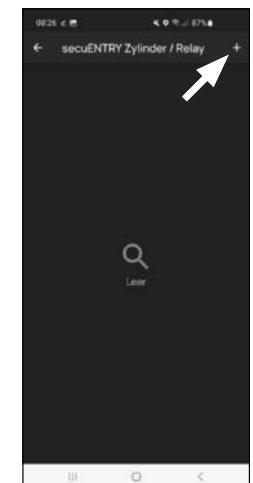

Fig. 2
② The app displays a list of the cylinders that have already been registered. This is empty during the initial setup. Setup a new cylinder by tapping on the "+" in the top right-hand corner (Fig. 2).